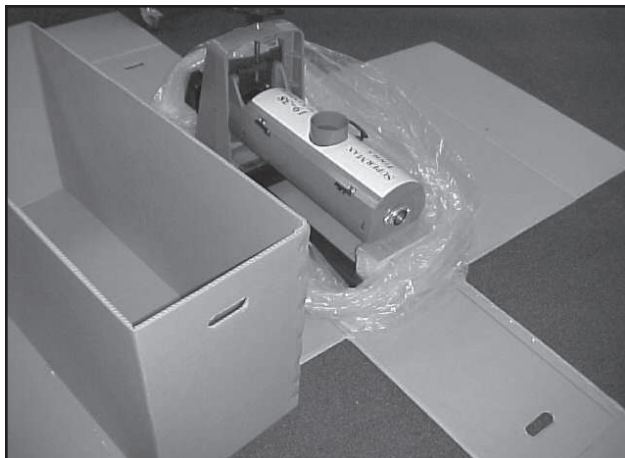

Fig. 2 Open plastic, remove liner, cut box
3. Cut each corner of Box 1 to fold sides flat, providing access to sanding unit. (Fig 2)